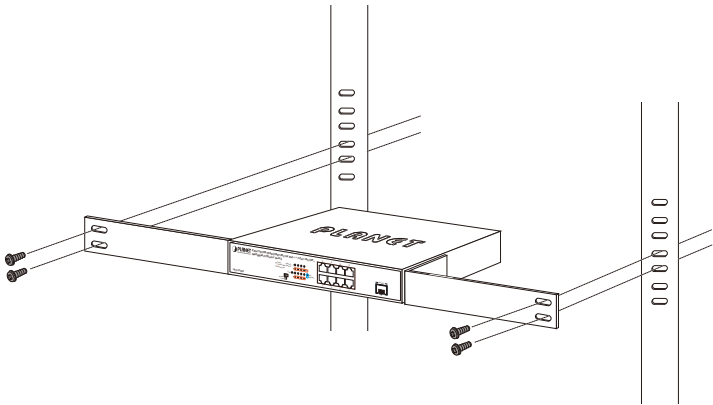

Figure 4: Mounting the Multigigabit Ethernet Switch in a Rack
- Step 5:** After the brackets are attached to the Multigigabit Ethernet Switch, use suitable screws to securely attach the brackets to the rack, as shown in Figure 4.